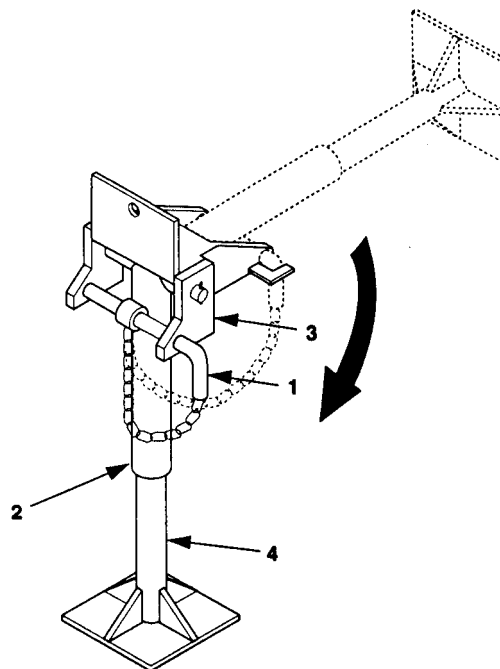
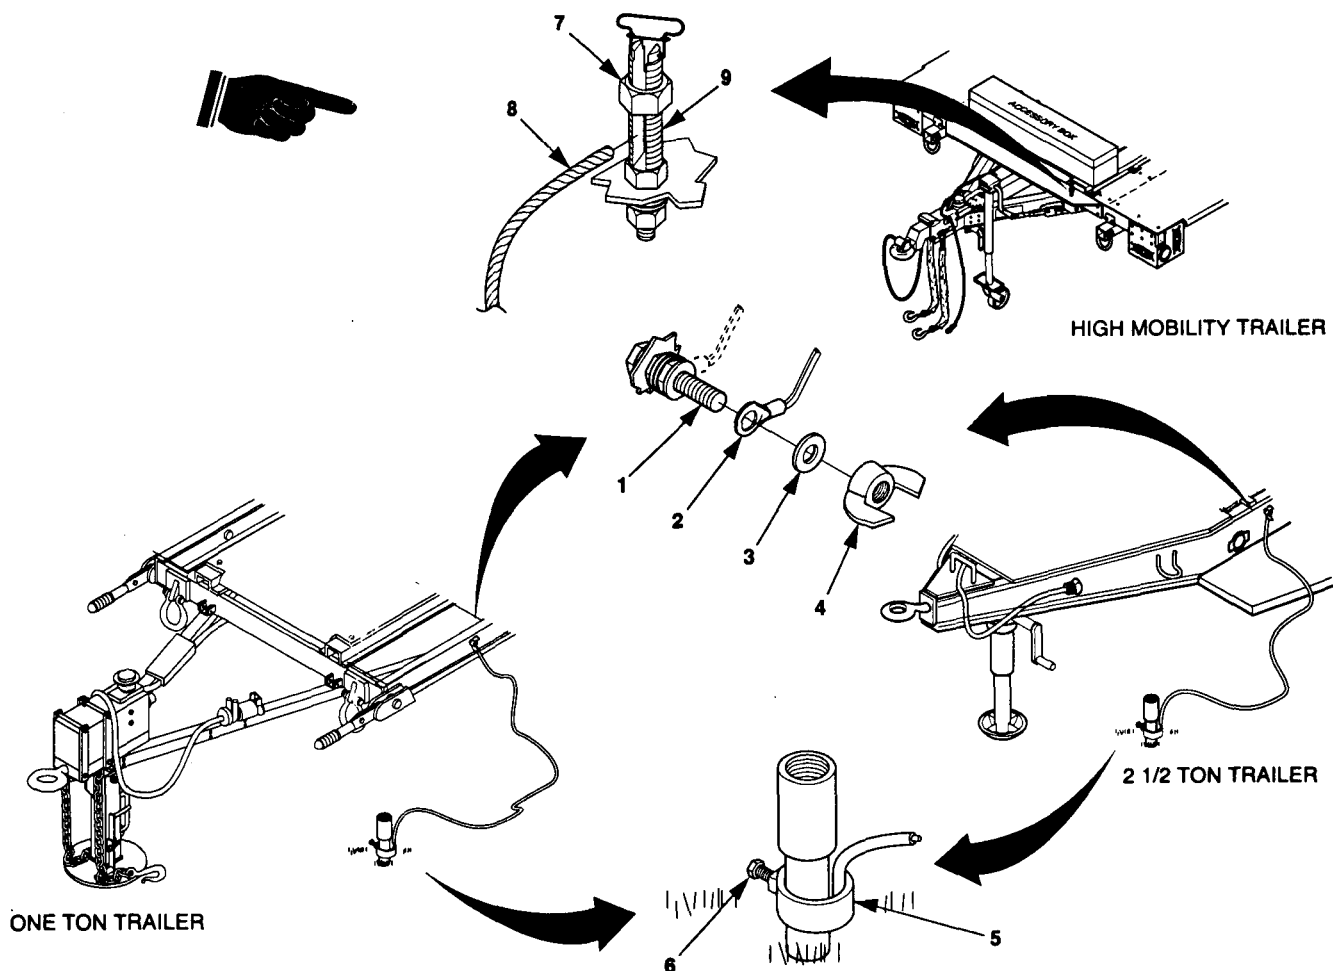

Figure 2-5. Rear Leveling-Support Jack.
Figure 2-6. Typical Ground Rod Installations.
- (5) Refer to TM 9-2330-202-14&P (1 ton trailer) or TM 9-2330-392-14&P (high mobility trailer) and disconnect trailer from towing vehicle.
- (6) Pull out pin (1, figure 2-5) that secures rear leveling-support jack (2) in travel position,
- (7) Pull rear leveling-support jack (2) down. Insert pin (1) in bracket (3) to secure rear leveling-support jack (2) in down position.
- (8) Turn leg base (4) until it makes firm contact with ground.
**2-3.3 Grounding of Generator Set.** Ground the equipment in accordance with Army Field Manual Field Manual 20-31. Typical ground rod installations are shown in Figure 2-6. If a ground rod is used, install and connect it as follows:
- (1) If the high mobility trailer (PU-801A) is being used, perform steps (5) through (7). Otherwise perform steps (2) through (4) and step (7).
- (2) Remove and retain wing nut (4, figure 2-6) and washers (3) from trailer ground stud (1) and install ground cable terminal (2) to ground stud (1)
- (3) Install washers (3) on ground stud (1).
- (4) Install wing nut (4) on the ground stud (1) and tighten.
- (5) Loosen nut (7) on high mobility trailer ground terminal (9).